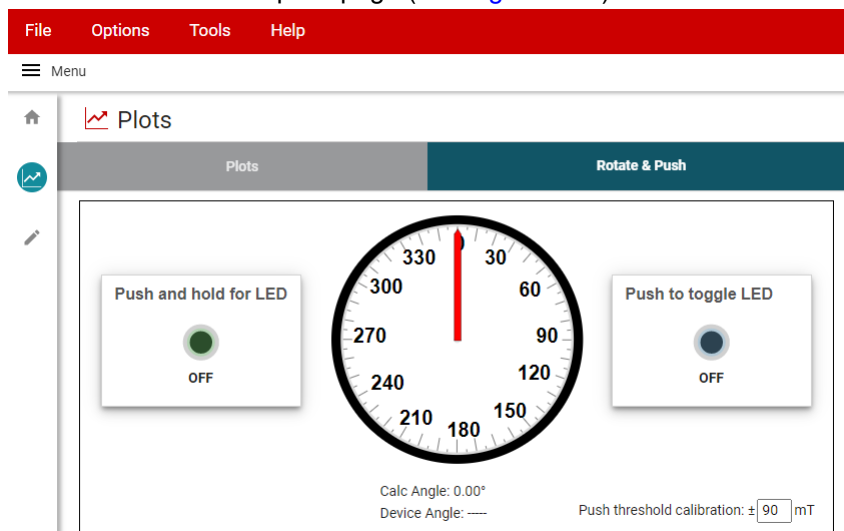

Figure 4-11. Rotate & Push GUI Page
3. Go to the *Rotate & Push* tab inside the plots page (see Figure 4-11).